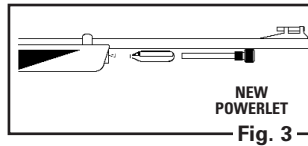

Fig. 3
- Insert the new CO2 cylinder into the rifle with the small neck of the cylinder pointing toward the rear of the gun. (Fig 3)